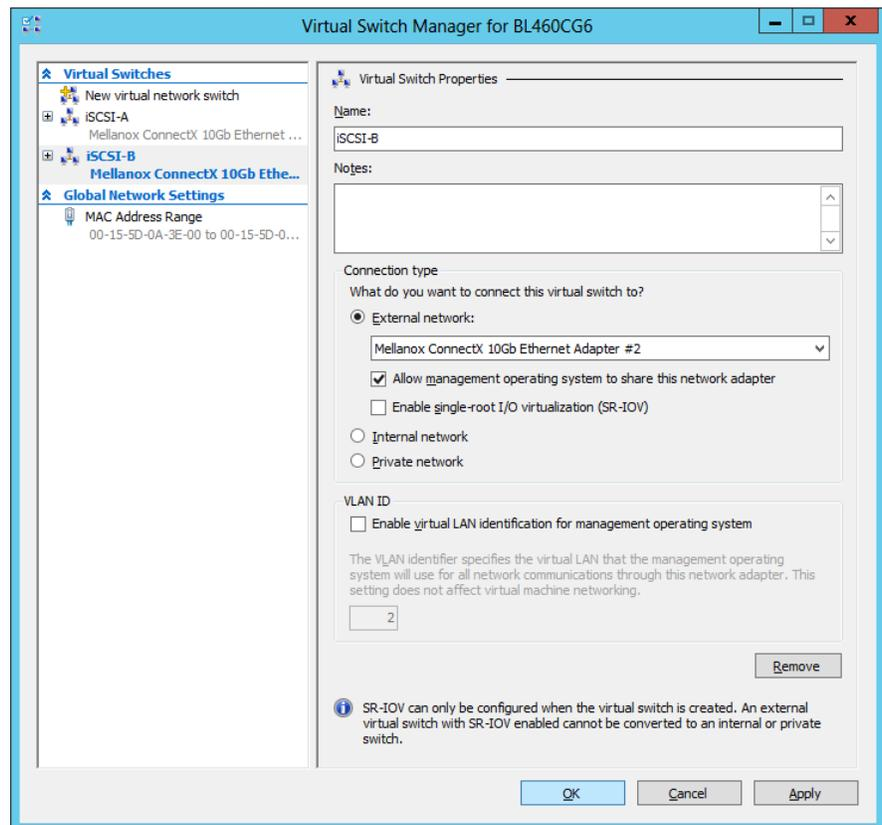

Figure 30: Virtual switch properties screen.
6. Check the Allow management operation system to share this network adapter checkbox. (See Figure 30.)